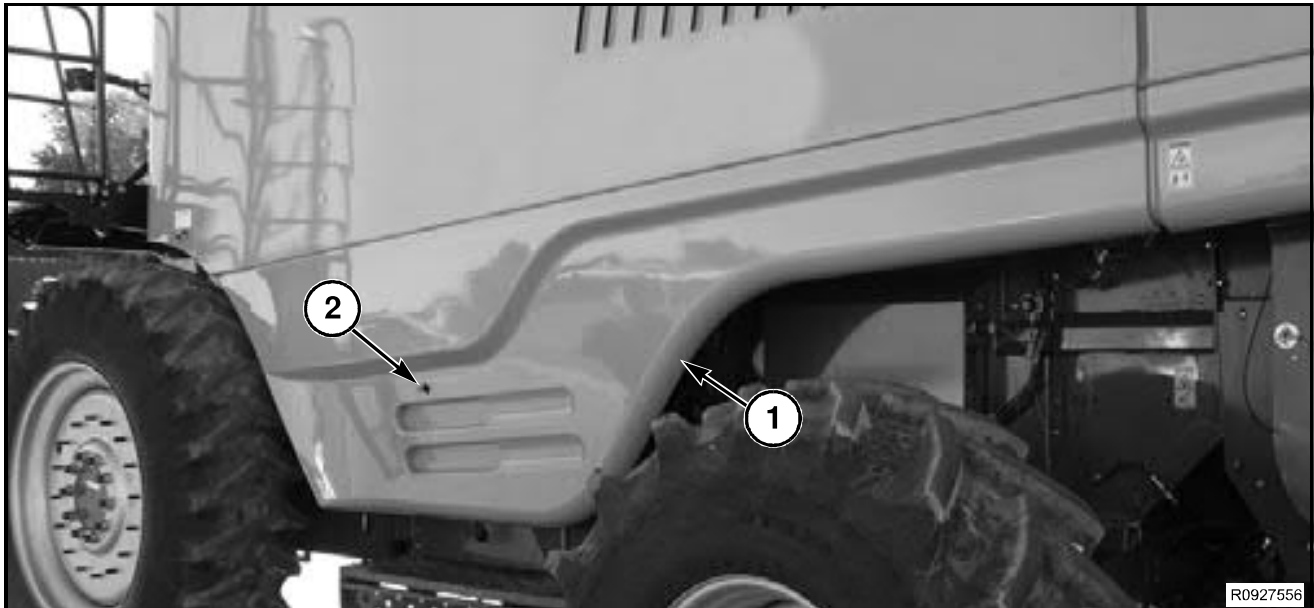

FIG. 37
FIG. 37: To open the left-hand side shield (1), twist the latch (2) counter-clockwise and pull out on the bottom of the shield. The gas shocks attached to the shield will automatically raise the left-hand side shield.